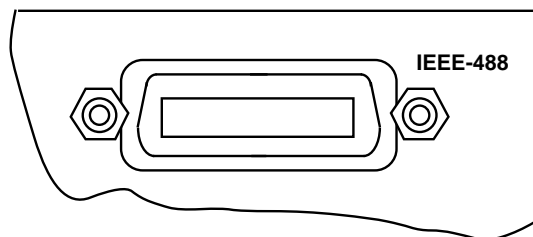

Figure 5-3
1. Line up the cable connector with the connector located on the rear panel. The connector is designed so that it will fit only one way. Figure 5-3 shows the location of the IEEE-488 connector on the instrument.